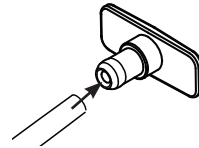

Figure 9
- When all water has drained, return the plug to the tube. (Figure 9).
6. Once rinsing is complete, reconnect the drain tube to the drain plug (Figure 9), and if you have a side tank, reconnect the side tank tube to the Side Tank base (Figure 4).